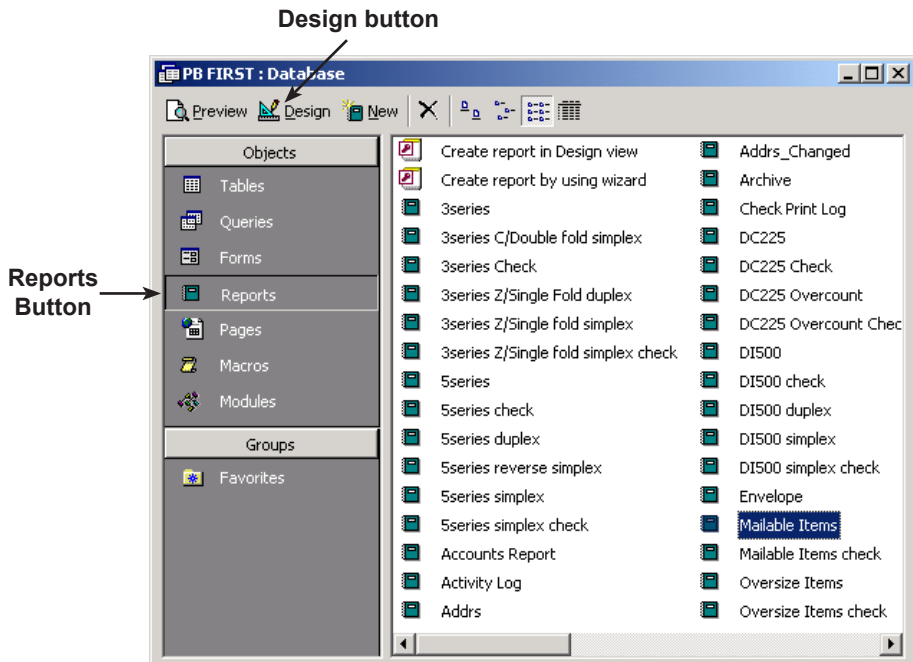

Figure 4-9
1. With the PB FIRST main menu displayed, press **F11** on your keyboard to display the Database window (Figure 4-9).